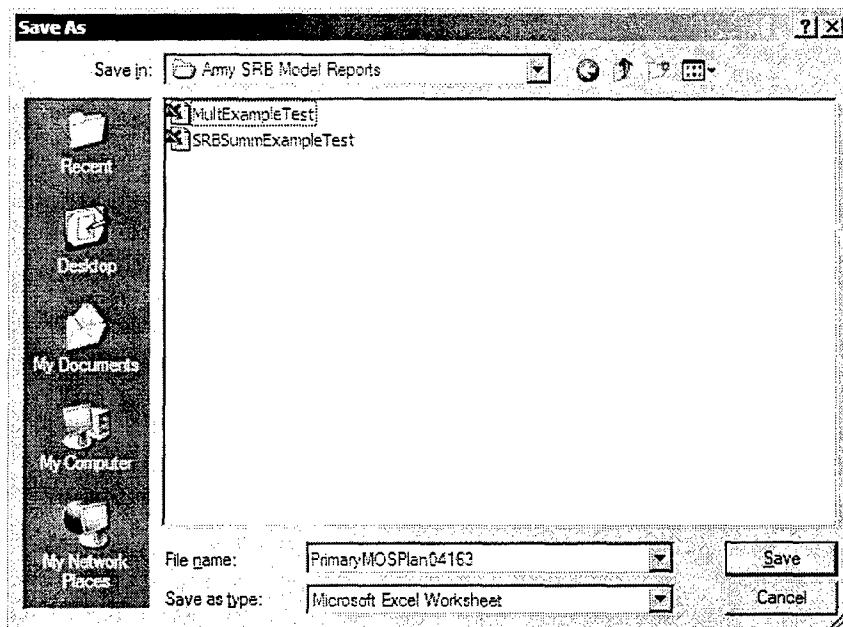

Figure 61. Primary MOS Report Export Save to Disk
5. When you save the workbook, you may also choose a different name by overwriting the default name in the File Name box (see Figure 61).